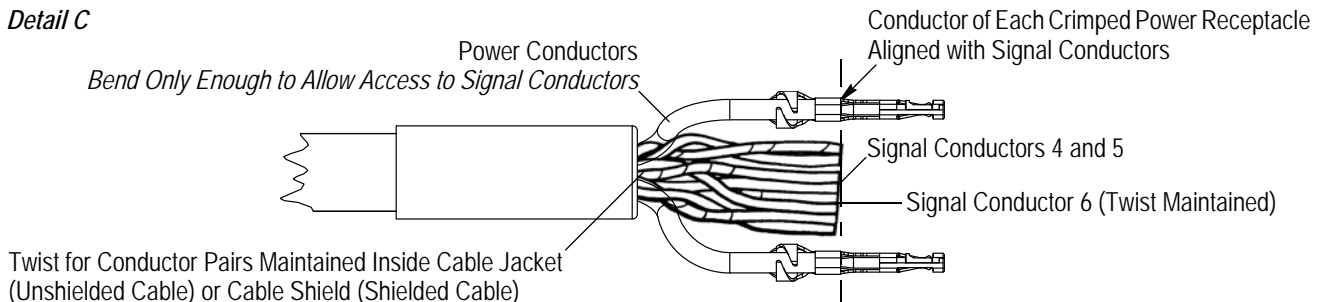

Figure 5
- Changed reference zone dimension in Figure 8, and modified Figure 5, Details A and B, Figure 6, Details A and B, and added Detail C, and added detail to Figure 8
- a. The conductors must be grouped in pairs according to electrical schematic T568C, and the conductor pairs must be arranged in the sequence shown in Figure 5, Detail A.
- b. While holding the end of the cable jacket, the conductor pairs must be untwisted and arranged in positions for the electrical schematic as shown in Figure 5, Detail B.
IT IS CRITICAL that the conductor pairs DO NOT untwist inside the cable jacket. Conductor 6 must be crossed over Conductors 4 and 5. It is extremely important that the twist for Conductor 6 be maintained as it crosses over top of Conductors 4 and 5. Refer to Figure 5, Detail C.
- c. Maintaining the proper orientation of the conductors, the conductors must be trimmed evenly — leaving a length, measured from the end of the cable jacket to the tips of the conductors, that meets the dimension given in Figure 5, Detail C.